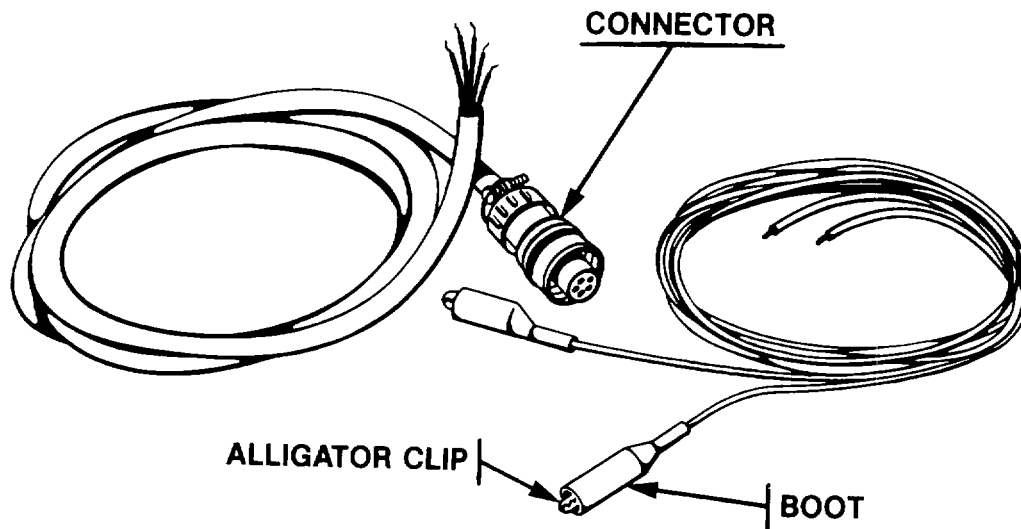

Figure 3-5. Pyrometer And Thermocouple Test Leads.
- a. Extend thermocouple and thermometer test leads full length on work bench (See Figure 3-5).